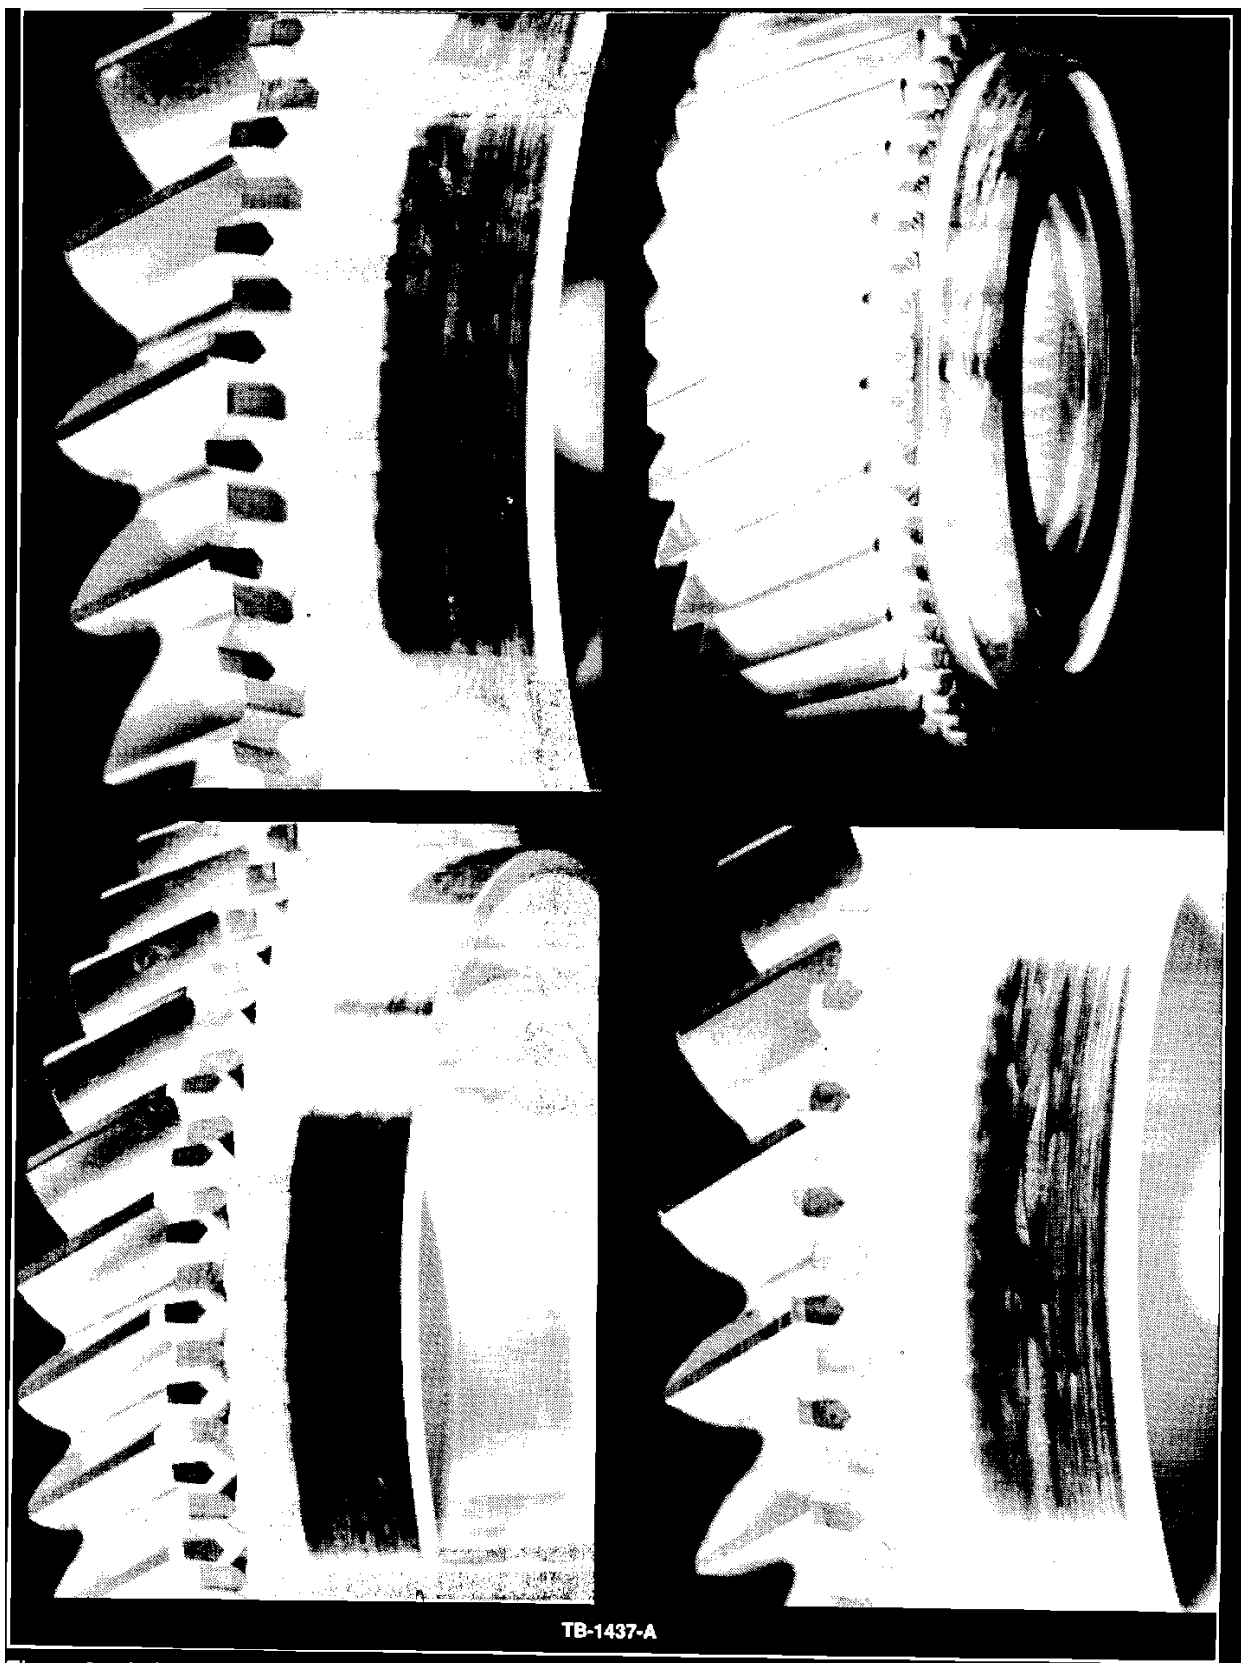

Figure 2
3. Reuse the gears if sufficient synchronizer reserve allowance is available and the teeth (dog teeth) are in good condition. Various acceptable wear patterns on the taper cone are shown in Figure 2.